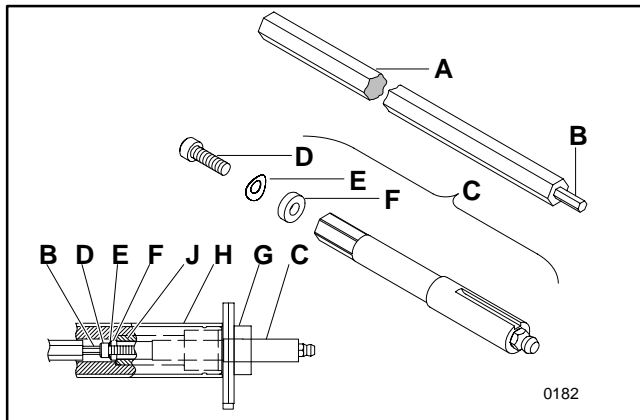
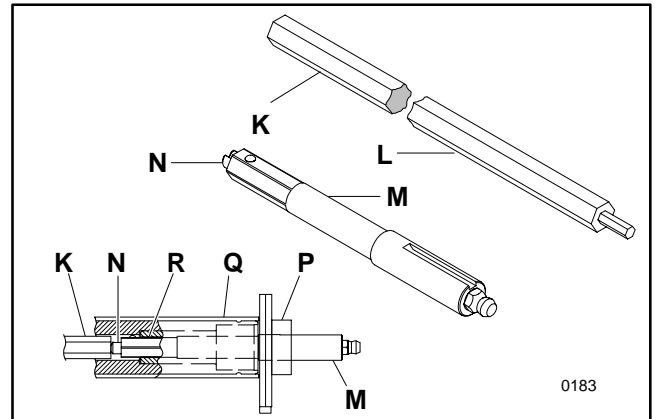

Figure 24
Figure 25: Type 2 for 15 to 25" (381 to 610 mm) Wide Conveyors
Removal of the outboard drive shaft (C of Figure 24 and M of Figure 25) requires use of Dorner hex key wrench extension tool (A of Figure 24 and L of Figure 25).
1. Insert the small end (B of Figure 24) of hex key wrench extension tool (A) into the spindle (H) end opposite the outboard drive shaft assembly (C) and
3. Remove the outboard drive shaft assembly (M of Figure 25) by inserting the blunt end (K) of the hex key wrench extension tool (L) into the spindle (Q) end opposite the outboard drive shaft assembly (M).
4. While pushing in the spring loaded plunger (N) with the hex key wrench extension tool (L), pull out the outboard drive shaft assembly (M).
For outboard drive shaft assembly (C of Figure 24 and M of Figure 25) installation, the spindle (H of Figure 24 and Q of Figure 25) may have to be turned around in the conveyor frame. The hex bore (J of Figure 24 and R of Figure 25) is off center on spindles for conveyors measuring 5" (127 mm) and wider. If necessary, remove the spindle following the "Spindle Removal Procedure" on page 14, turn it around, and replace it following the "Spindle Replacement Procedure" on page 16.
Install the outboard bearing retaining sleeve in the desired drive location. Be sure the spindle hex bore (J of Figure 24 and R of Figure 25) is properly located as indicated in the previous chart.
1. Push the outboard drive shaft assembly (C of Figure 24) into the outboard bearing retaining sleeve (G).
2. Place the curved spring washer (E), then the flat hard washer (F) onto the special spindle screw (D). Turn the screw/washer set into the outboard drive shaft assembly (C) using the small end (B) of hex key wrench extension tool (A). Tighten the screw until it is just seated in the shaft [20 in/lb (2.26 Nm) maximum] which fully compresses the spring washer. Then, back off the screw 1/2 turn (180°).
1. Insert the blunt end (K of Figure 25) of the hex key wrench extension tool (L) into the end of the spindle (Q) opposite the outboard bearing retaining sleeve (P).
2. Exert inward pressure on the hex key wrench extension tool (L) to release the spring loaded plunger (N), at the same time push inward on the outboard drive shaft assembly (M) until it is fully seated.